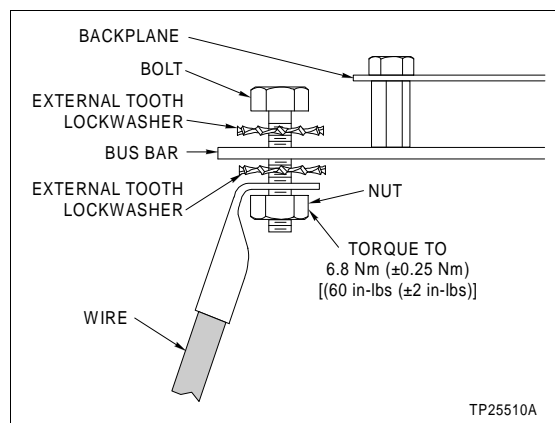

Figure 3-1. Connecting System Power Cables
1. Connect one end of the 5 VDC cable to the 5 V connector at the top of the system power bus bar (top connector on the system power bus bar). Use a No. ¼-28 x 0.5-inch brass cap screw and nut with two external tooth lockwashers provided with the INFI 90 OPEN Modular Power System II. There should be a lockwasher used on each side of the system bus bar (Fig. 3-1).
2. Connect the straight ring lug end of the MCOM cable to the MCOM bus bar (second connector from the top of the system power bus bar). Use a No. ¼-28 x 0.5-inch brass cap screw and nut with two external tooth lockwashers provided with the INFI 90 OPEN Modular Power System II. There should be a lockwasher used on each side of the system bus bar (Fig. 3-1).
3. Connect one end of the I/O COM cable to the I/O common connector at the top of the system power bus bar (third connector from the top of the system bus bar). Use a No. ¼-28 x 0.5-inch brass cap screw and nut with two external tooth lockwashers provided with the INFI 90 OPEN Modular Power System II. There should be a lockwasher used on each side of the system bus bar (Fig. 3-1).
for a wiring diagram of the system power bus bar. Use a No. ¼-28 x 0.5-inch brass cap screw and nut with two external tooth lockwashers provided with the INFI 90 OPEN Modular Power System II. There should be a lockwasher used on each side of the system bus bar (Fig. 3-1).
1. Connect the free end of the 25.5 VDC cable to the 25.5 VDC bus bar on the power module chassis backplane. Use a No. $\frac{1}{4}$ -28 x 0.5 brass cap screw and nut with two external tooth lockwashers provided with the INFI 90 OPEN Modular Power System II. There should be a lockwasher used on each side of the backplane bus bar (Fig. 3-1).
2. Connect the free end of the I/O COM cable to the I/O common bus bar on the power module chassis backplane. Use a No. $\frac{1}{4}$ -28 x 0.5-inch brass cap screw and nut with two external tooth lockwashers provided with the INFI 90 OPEN Modular Power System II. There should be a lockwasher used on each side of the backplane bus bar (Fig. 3-1).
3. Connect the bent ring lug end of the MCOM cable to the module common bus bar on the power module chassis backplane. Use a No. $\frac{1}{4}$ -28 x 0.5-inch brass cap screw and nut with two external tooth lockwashers provided with the INFI 90 Modular Power System II. There should be a lockwasher used on each side of the backplane bus bar (Fig. 3-1).
4. Connect the free end of the 5 VDC cable to the 5 VDC bus bar on the power module chassis backplane. Use a No. $\frac{1}{4}$ -28 x 0.5-inch brass cap screw and nut with two external tooth lockwashers provided with the INFI 90 OPEN Modular Power System II. There should be a lockwasher used on each side of the backplane bus bar (Fig. 3-1).